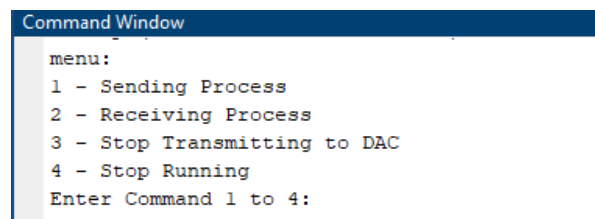

Figure 5: MATLAB application menu
6. Run the MATLAB script. Once it connects to the board via Ethernet, the menu shown in Figure 5 should be visible in the command window of MATLAB.